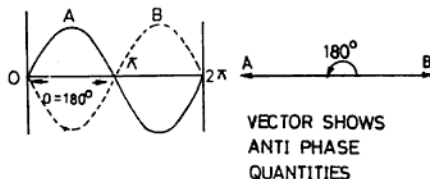

Fig. 11.6: Antiphase quantities
**Anti-Phase Quantities** When two quantities are out of phase by  $180^\circ$  electrical, they are said to be *anti-phase quantities* as shown in Fig. 11.6.